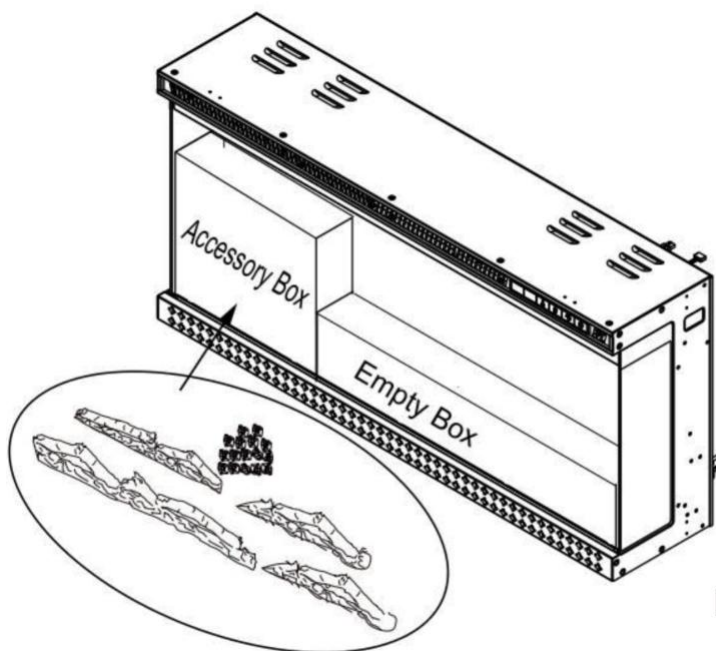

Fig3
3. Take the logs carbon box out off appliance, see Fig.3 .